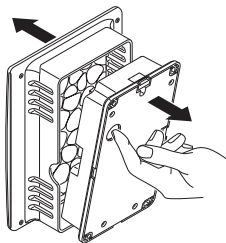

Figure 2
2. **Remove chime cover.** While holding the chime cover in one hand, use the hole in the chime base to remove the chime base from the chime cover (see Figure 2). *Note:* To remove chime cover after chime base is mounted, firmly grasp chime cover and pull.